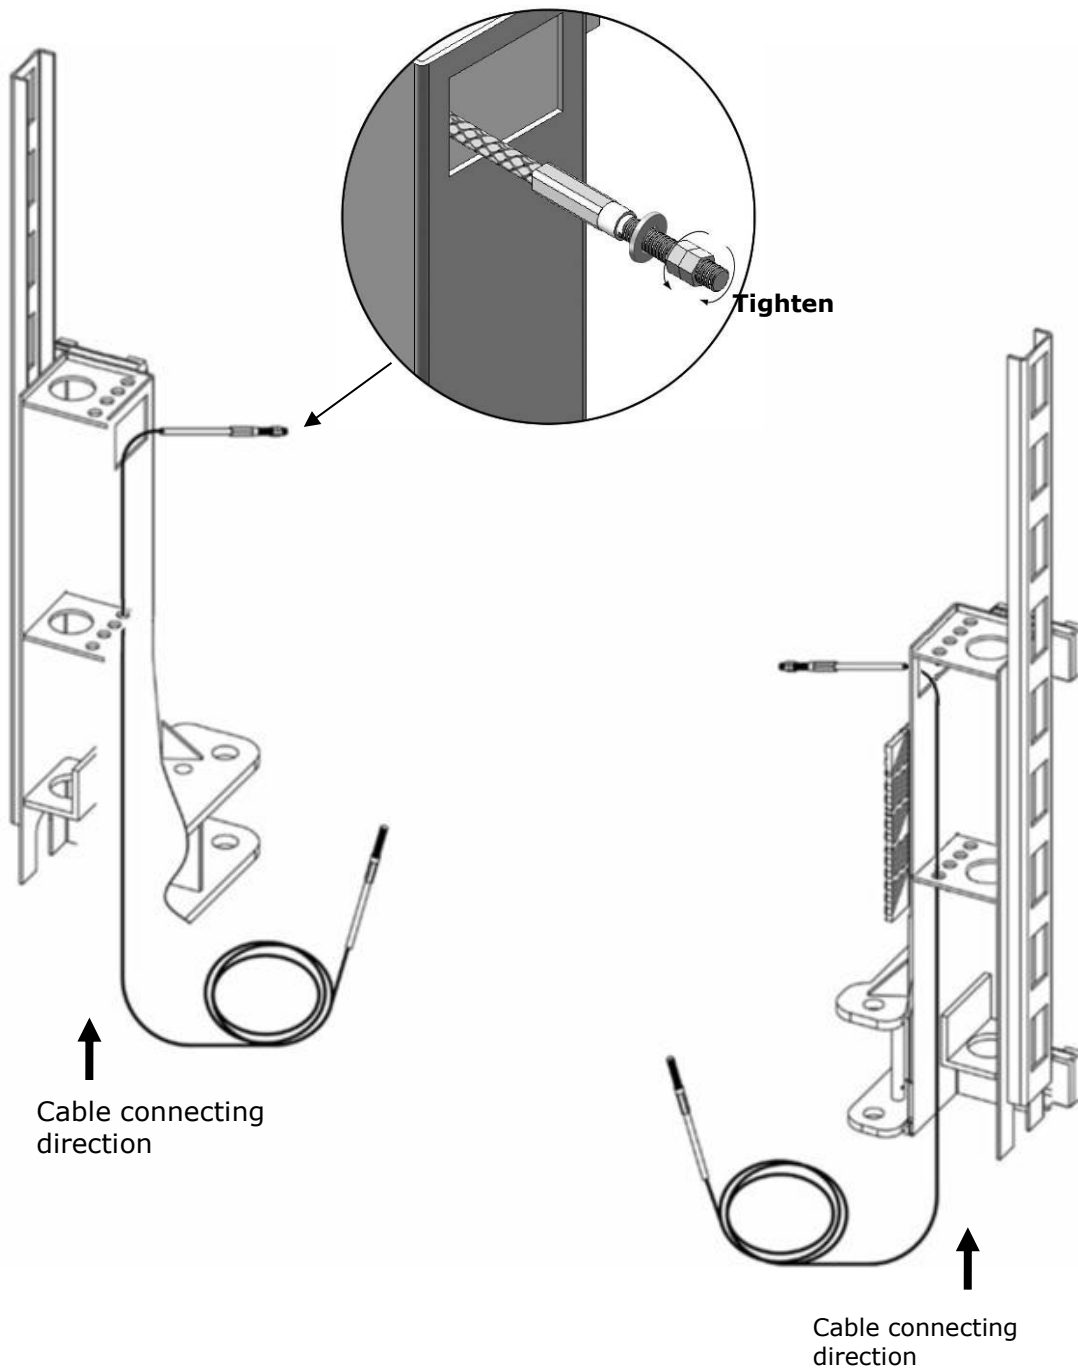

Fig. 28
1.1 Take out the carriages plastic cover, cable pass through from the bottom of the carriages and be pulled out from the open of carriages, then screw the two cable nuts (**See Fig. 28**).